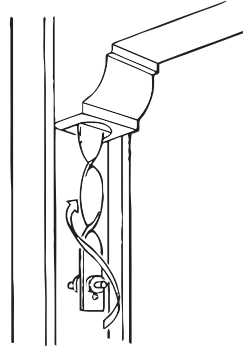
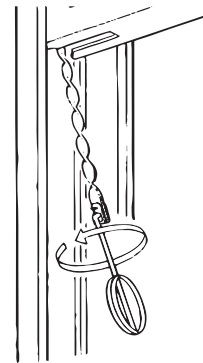

FIG 14
FIG 15
6) Thread the spiral rod upwards into the tube by revolving anti-clockwise, left hand turn as viewed from underside (**Fig 14**). Using the hook tool provided, pull the spiral rod downward about 200mm (8inches) without rotating. Now apply adjustment turns in anticlockwise direction (**Fig 15**). Repeat adjustment for other balance, remove prop and the try sash action. Correct balancing is achieved when sash is just held in its highest position. If necessary make adjustment turns in either direction on both balances obtain this condition. **Do not over tension.**